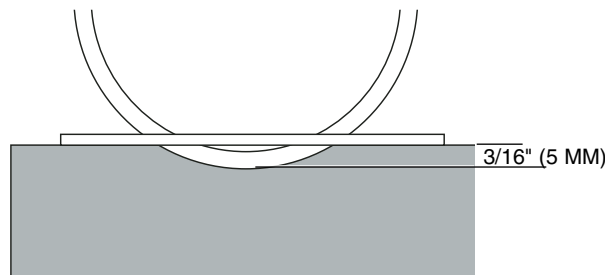

FIG. 8
2. Water nozzles (M) can be fully retracted to allow for maximum capacity (Fig. 8).